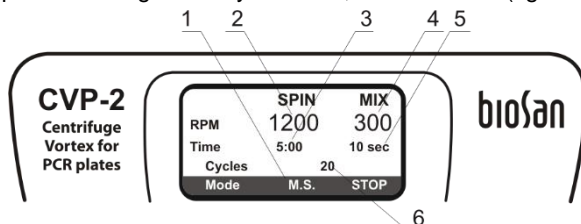

Fig. 4. Centrifugation + vortexing
- 4.9.1. Select the alternating centrifugation and vortexing algorithm (indication **M.S.** of **Mode** parameter, fig. 4/1).
- 4.9.2. Set the required centrifugation speed, from 300 to 1500 rpm (increment 100 rpm, fig. 4/2)
- 4.9.3. Set the required centrifugation time, from 1 s to 30 min (increment 1 s, after 1 min - 1 min, fig. 4/3).
- 4.9.4. Set the required vortexing speed, from 300 to 1200 rpm (increment 100 rpm, fig. 4/4).
- 4.9.5. Set the required vortexing time, from 1 to 60 s (increment 1 s, fig. 4/5).